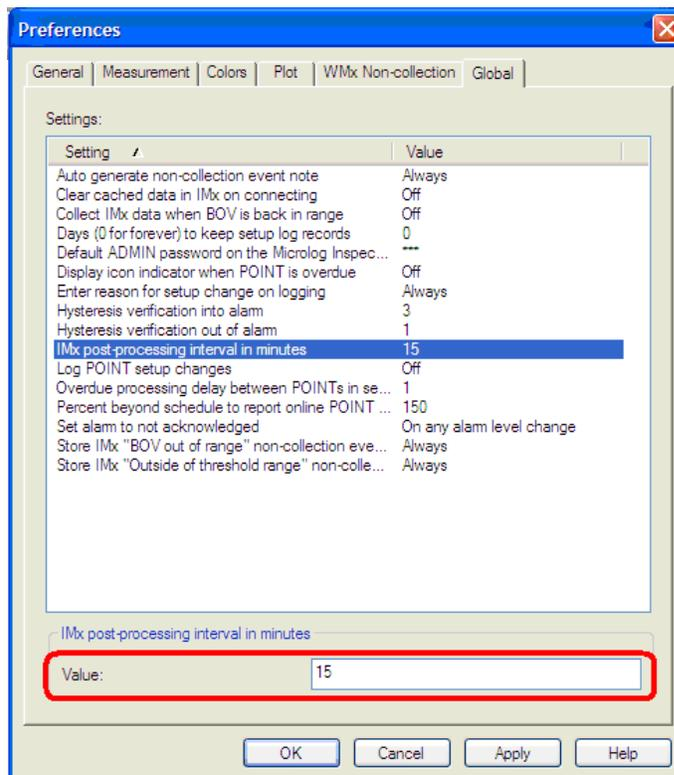

Figure 4. IMx post-processing interval in minutes setting
2. Select **IMx post-processing interval in minutes** to edit the value. [Figure 4]